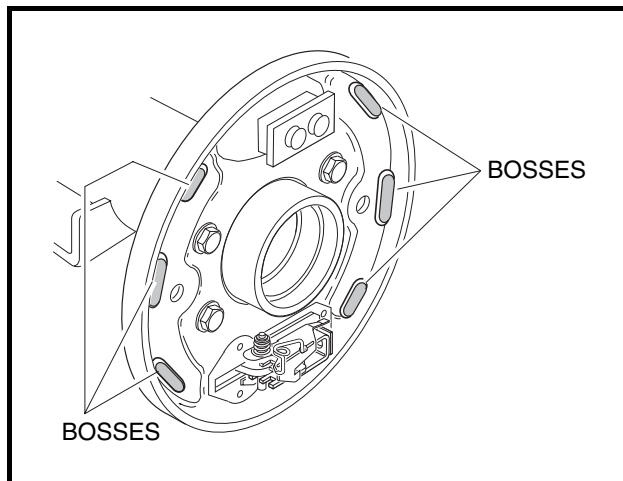

Figure 6-9 Apply Grease On Bosses
4. Use a small brush to carefully apply a light coat of white lithium NLGI #2 grease (Dow Corning BR2-Plus or equivalent) on each of the six raised bosses on the brake backing plate (**Figure 6-9, Page 6-5**). **See preceding WARNING.**